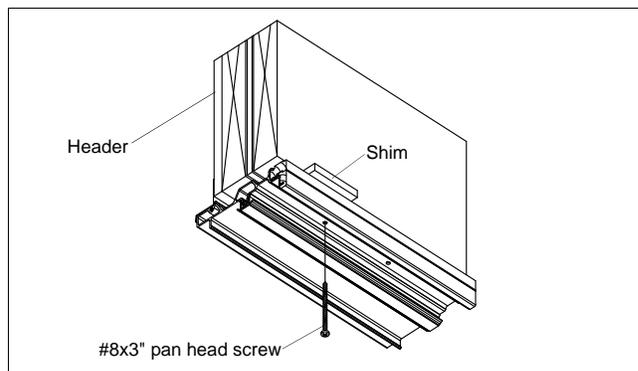

Figure 2 Head Jamb detail
2. Shim between the rough opening header and the unit head jamb within 1" (25) to 2" (51) of the predrilled installation screw hole(s) near the center of the unit. Check the head jamb to be sure it is not bowed up or down. On two wide doors, fasten head jamb to the rough opening with #8x3" pan head screws. Predrilled holes are located approximately 38" (965) from each jamb. See figure 2.